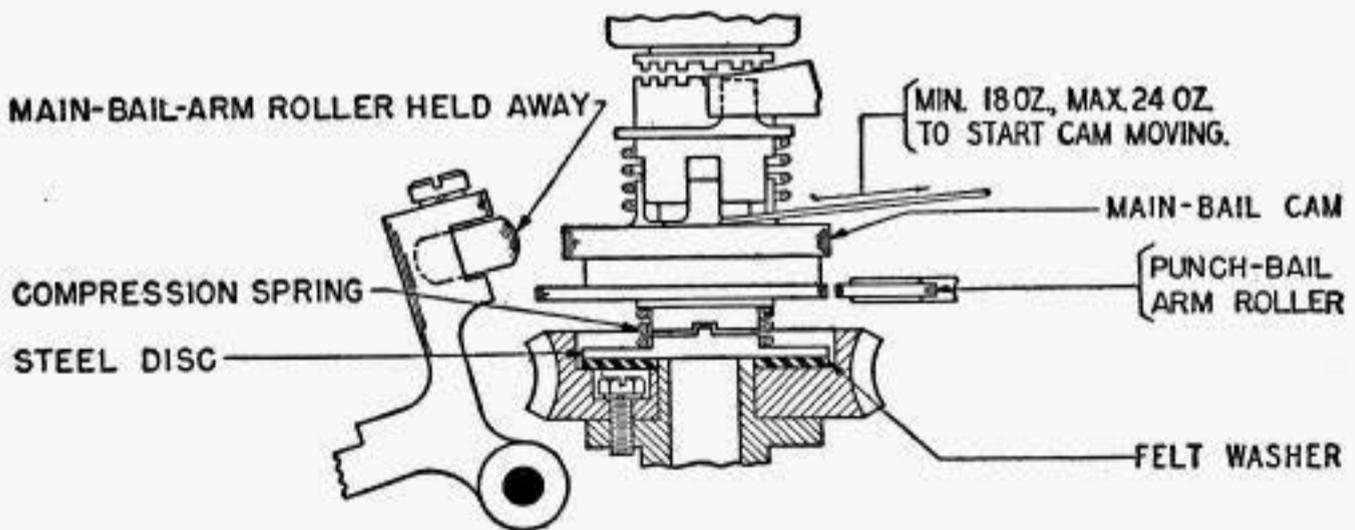

Fig. 72
2.140 Punch-Bail-Arm Spring: It should require Min 6 lb., Max 7 lb. to start the punch-bail-arm roller moving away from its cam when the roller is resting on the low part of the cam. **Fig. 72**